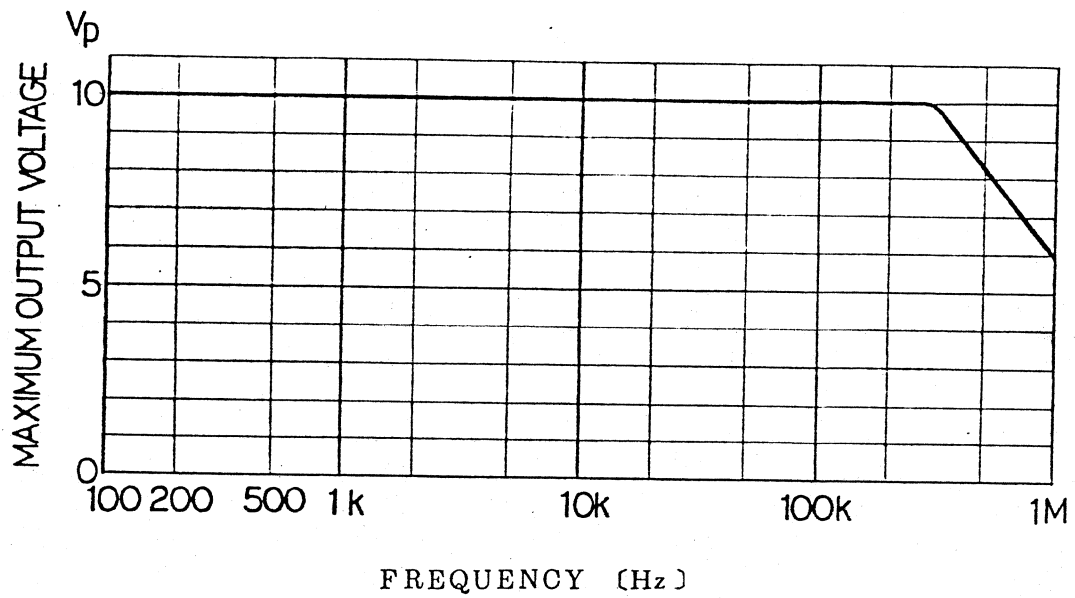

Fig. 6-5 Frequency vs. maximum output voltage
- Fig. 6-5 Frequency vs. maximum output voltage